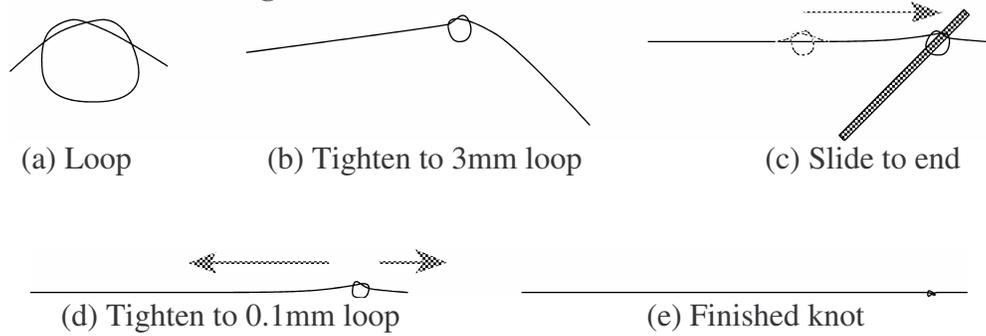

Figure 2: Knotting nitinol
**Insert Figure 2 here. Drawing**